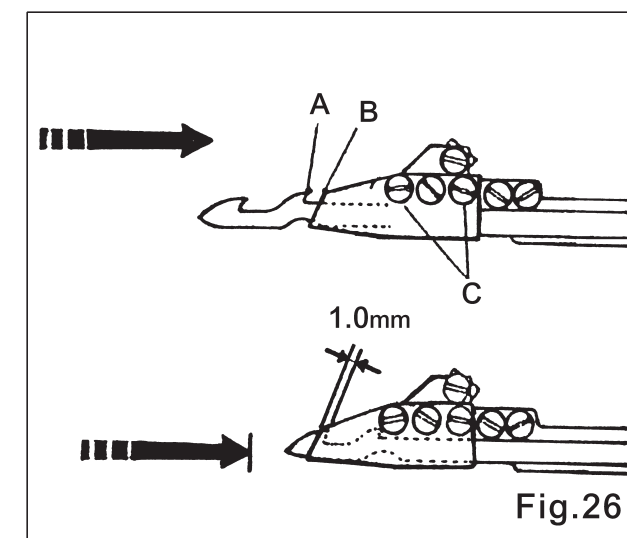

Fig.26
1. When Lower Moving Knife move to the right, the Moving Knife hook (A) of right hand side one align with the tip (B) of Fixing Knife. When the Lower Moving Knife move to the right dead point, The Moving Knife hook of left hand side one pass the tip of Fixing Knife in 1.0mm. Loosen the screw (C) for adjusting the position of Fixing Knife. (Fig.26)